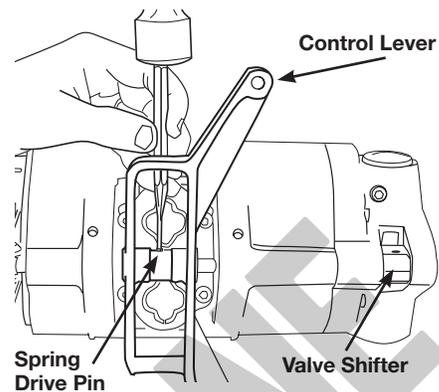
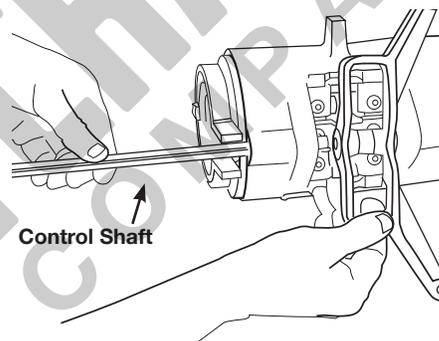

Figure 12- Driving Spring Pin from Control Lever and Shaft
Figure 13- Removing Control Shaft
- To remove control lever and shaft, drive spring pins from control lever (Figure 12) and valve shifter at end of shaft using a drift punch. Lightly tap valve shifter end of shaft and withdraw shaft by pulling on brake cam end (Figure 13). As shaft is withdrawn, valve shifter and control lever will fall free.